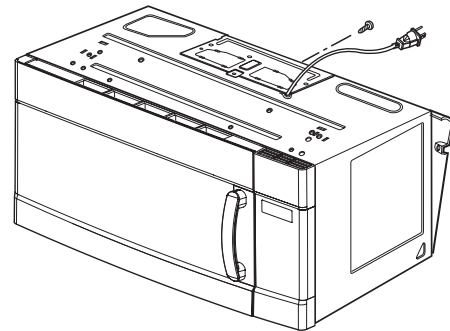

Figure 13
- (1) Remove the mounting plate by removing two screws securing it to the back plate. (See Figure 13)